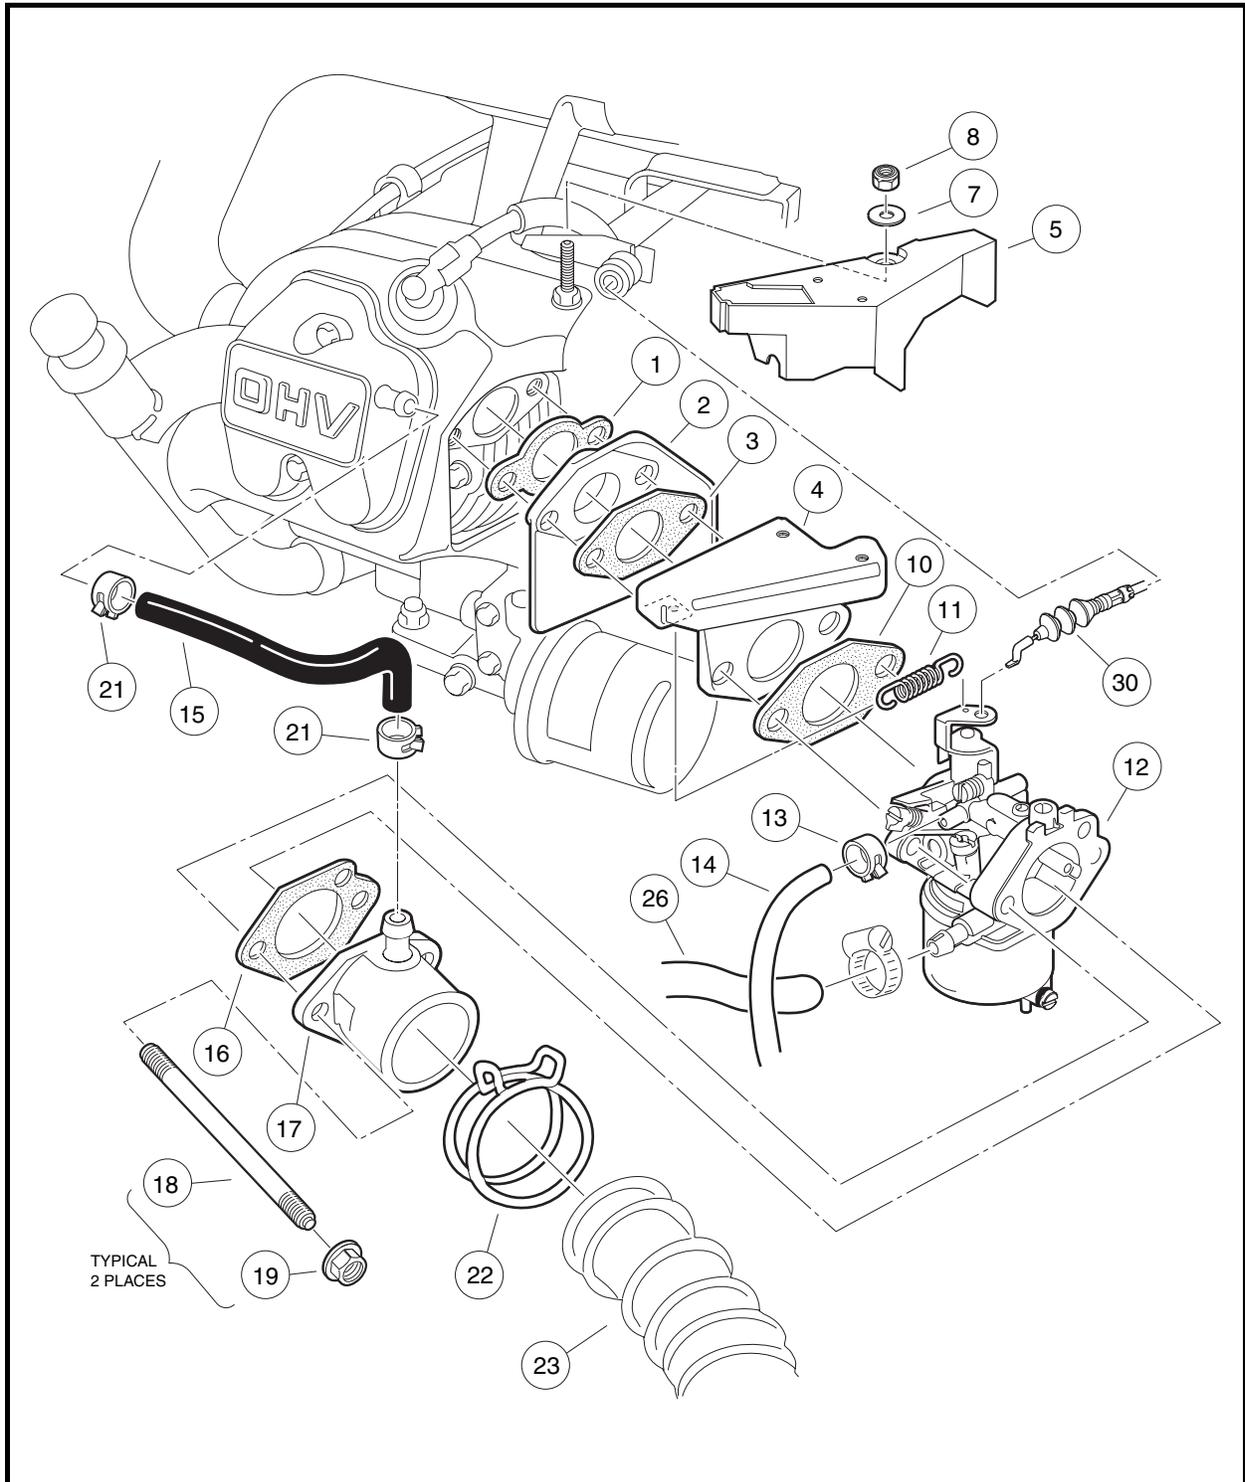
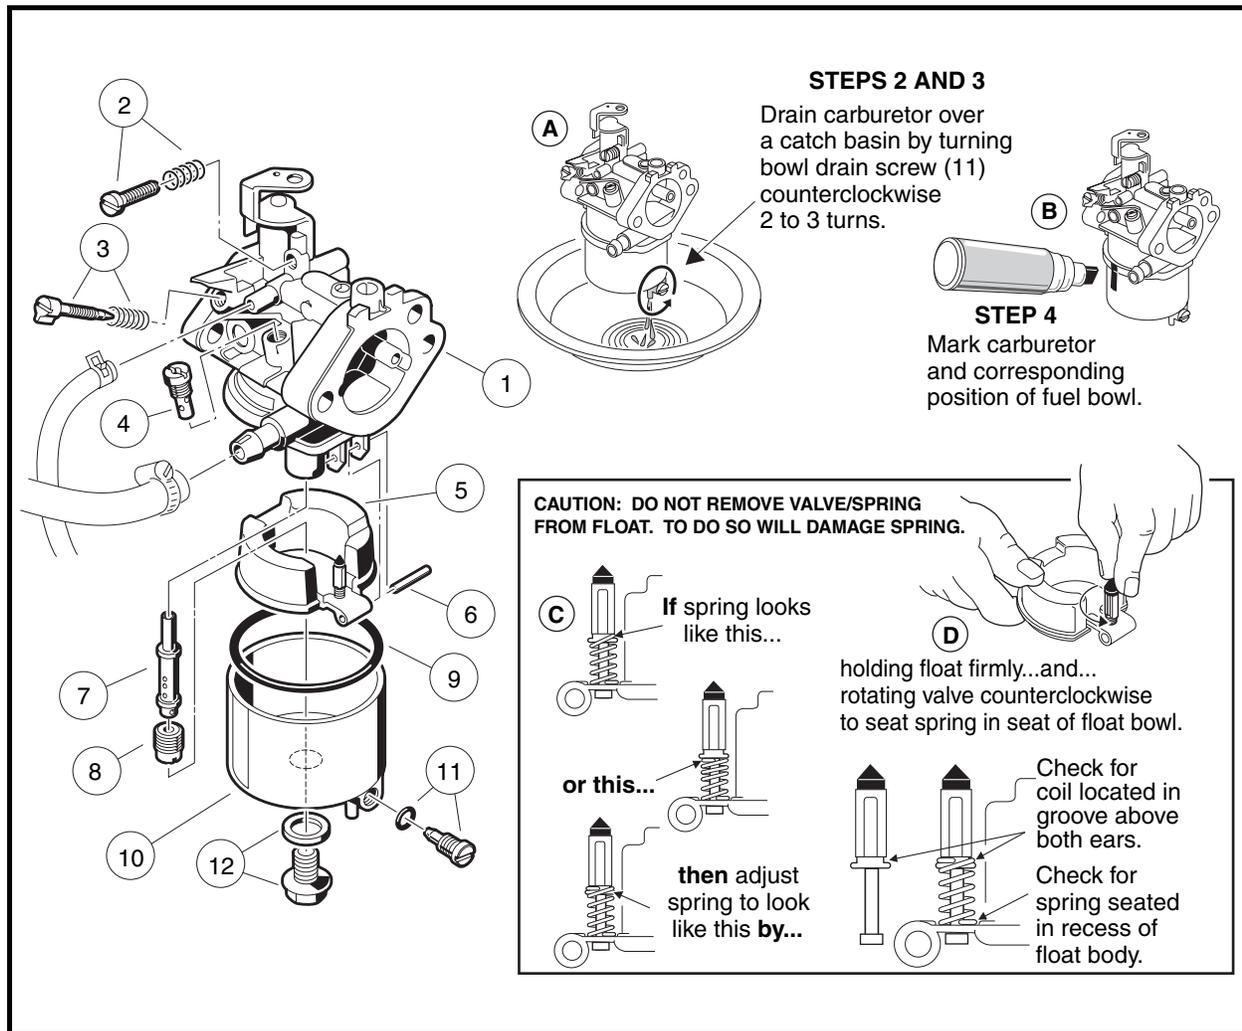

Figure 14-1 Carburetor Installation
Figure 14-2 Changing the Main Jet
- 1.2. Loosen the intake air hose clamp (22) and disconnect the intake air hose (23) at the carburetor end only (**Figure 14-1, Page 14-3**).
- 1.7. Remove the carburetor retaining nuts (19), intake pipe (17), and carburetor (12). **See following NOTE.**
**NOTE:** Note the orientation of the gasket (16), between the carburetor intake pipe (17) and the carburetor body (12) so that it can be replaced in the same orientation (**Figure 14-1, Page 14-3**).
*When removing the carburetor body, the throttle return spring (11) must be disconnected. Note its proper orientation so that it can be replaced in the same orientation.*
2. Position the carburetor with the drain screw (11) over a catch basin (**Figure 14-2, Page 14-4**).
3. Turn the carburetor bowl drain screw counterclockwise two or three turns and drain all the fuel from the bowl into the catch basin (**Figure 14-2, Page 14-4**). Tighten the drain screw to 10 in-lb (1.1 N-m). Return fuel to the fuel tank or dispose of properly.
4. Mark the body of the carburetor and the carburetor fuel bowl with an indelible ink marker so that, after removal, the bowl can be installed again in the same position (**Figure 14-2, Page 14-4**).
5. Remove the carburetor fuel bowl retaining screw and washer (12), then remove the fuel bowl (10) and clean it with a nonflammable solvent (**Figure 14-2, Page 14-4**). **See following NOTE.**
**NOTE:** Make sure the fuel bowl gasket (9) remains properly seated in the carburetor body when the fuel bowl is removed (Figure 14-2, Page 14-4).
6. Remove the main jet (8) from the carburetor body and discard it (**Figure 14-2, Page 14-4**).
**NOTE:** Make sure the fuel nozzle (7) does not fall out of the carburetor body after removal of the main jet. This is best accomplished by positioning the carburetor upside down during main jet removal (**Figure 14-2, Page 14-4**).
**NOTE:** Inspect the main jet nozzle (7), and pilot jet (4) to ensure they are free from contamination. Replace any part that is clogged with contamination. Replace the float if it is damaged, or if the float valve is damaged or worn. Examine the float valve/spring assembly to make sure the spring is installed correctly (**Figure 14-2, Page 14-4**).
12. Install the carburetor on the engine (**Figure 14-1, Page 14-3**).
- 12.1. Attach the throttle return spring (11) to the carburetor and then to the throttle bracket (4) just before positioning the carburetor and securing it to the engine (**Figure 14-1, Page 14-3**).
- 12.3. Install the carburetor retaining nuts (19) and tighten them to 50 in-lb (5.7 N·m).
13. Connect fuel supply line (26) and tighten screw clamp to 9 in-lb (1.0 N·m) (if equipped) (**Figure 14-1, Page 14-3**).
14. Install carburetor vent line (14) and clamp (13).
15. Install the governor cable (30).
16. Install the governor guard (5), flat washer and nylon lock nut. Tighten to 30 in-lb (3.4 N·m).
17. Install the intake hose (23) and secure with hose clamp.
3. Remove the governor guard (5) (**Figure 14-1, Page 14-3**).